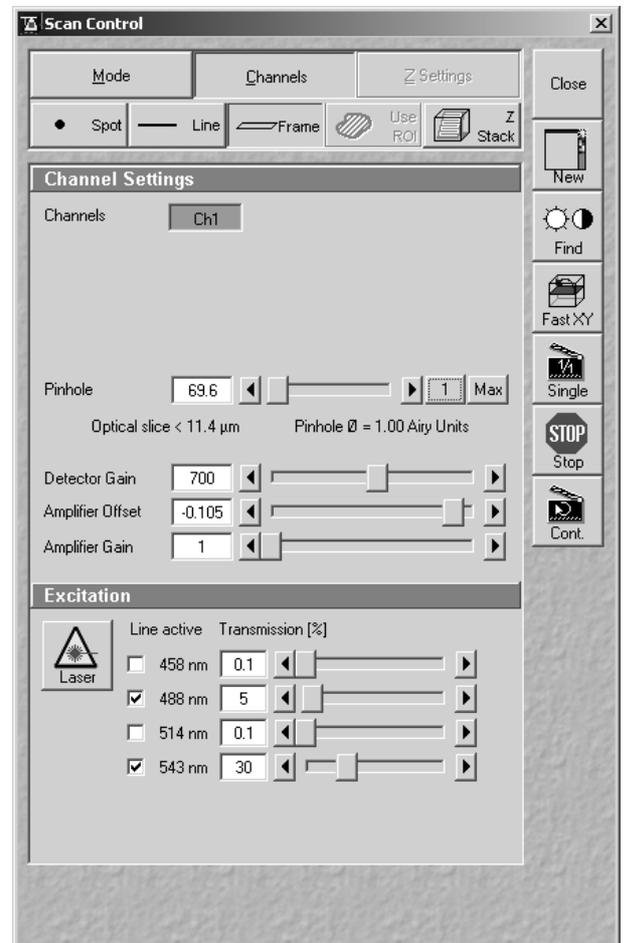

Fig. 5-274 Scan Control window (Channels)
- In the **Scan Control** window, click on the **Cont.** button (see Fig. 5-274).